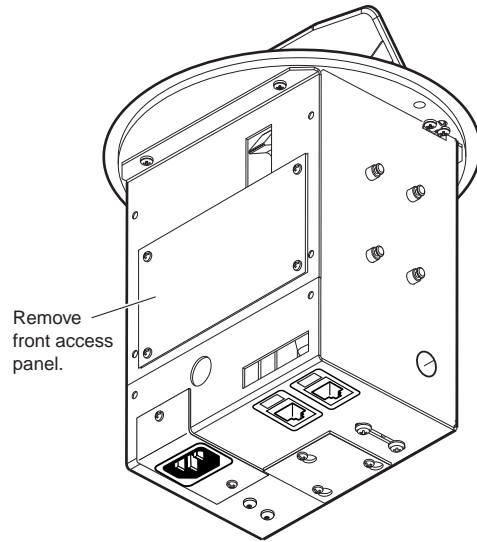

Figure 3-7 — Front access panel removal (HSA 222 models)
7. **(HSA 222 models only)** Remove the four Philips head screws from the front access panel (figure 3-7). Retain the screws. Lift the panel away from the enclosure.